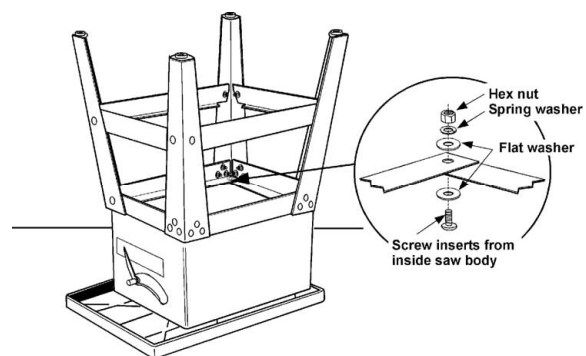

Figure 9
1. Place table top upside down with its surface on a flat floor, and place stand, with legs upside down, atop the cabinet. See Figure 9
2. Align the holes of stand with holes on bottom flange of saw base and **tightly** secure with four 5/16-18 x 1 hex head screws, four 5/16 hex nuts, four 5/16 flat washers, and four 5/16 spring washers. The screw heads should be inside of the saw body (see inset, Figure 9).